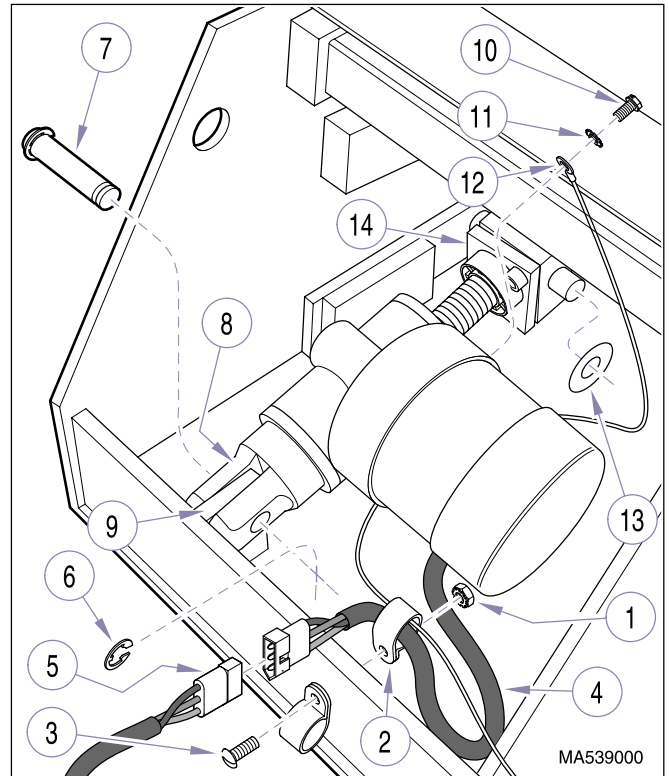

Figure 4-7. Base Motor Removal / Installation
- c. Use a jack or manually raise chair top until trunnion arms (B) come out of trunnion slots (C). Allow chair top to lower back on supports.
- (11) Remove locknut (1, Figure 4-7) and cable clamp (2) from screw (3). Then, remove cable clamp from base motor wire harness (4).
- (12) Disconnect base motor wire harness (4) from wire harness (5).
- (13) Remove two retaining rings (6) and pin (7) securing clevis of base motor (8) to mounting bracket (9).
- (14) Remove screw (10), lockwasher (11), and ground wire (12) from base motor (8).
- (15) Remove two washers (13); one from each side of trunnion (14).
- (1) Install two washers (13, Figure 4-7); one on each side of trunnion (14).